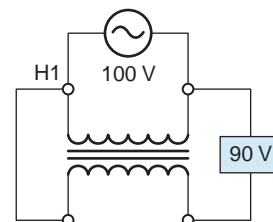

Figure 3-38 Circuit for review question 2.
2. A polarity test is being made on the transformer shown in Figure 3-38.